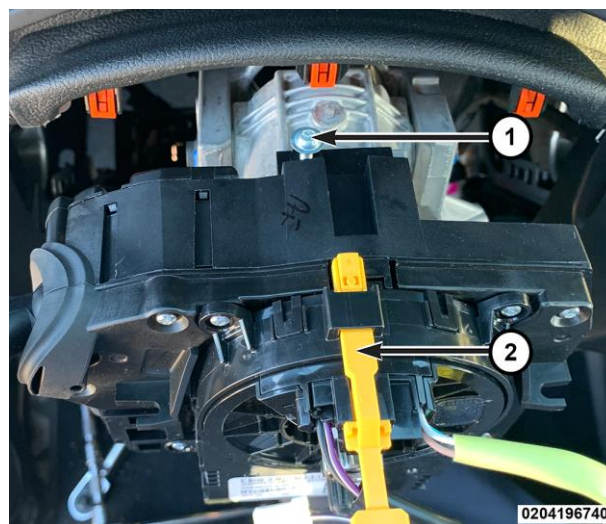

Figure 26 – SCCM
23. Remove the screws (1) (Figure 26 and 27).
4. Install and securely tighten the SCCM screws (1) (Figure 26 and 27).